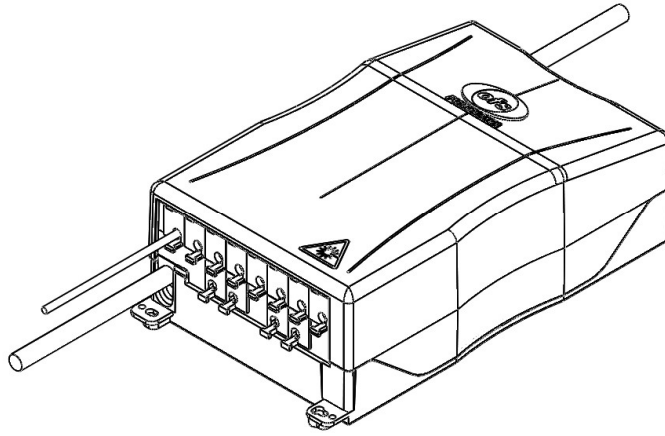

Fig. 33
- Turn the OFS logo to expose the cover mounting screw. Fasten the cover to the base using cover captive screw (Fig. 33);
Close the product as described in paragraph 5 (Fig. 33 and 34).